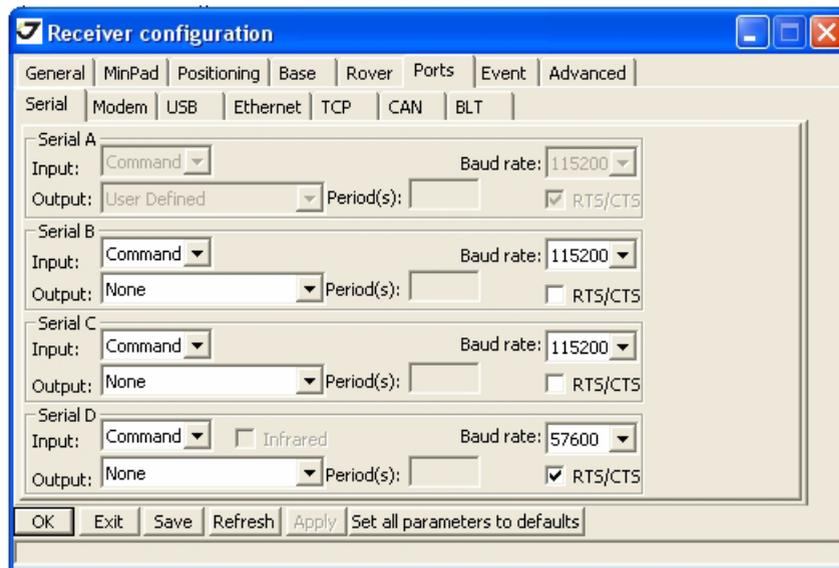

Figure 3-18. Base and Rover Configuration for RTK Surveys – Ports
9. For RTK surveys, click the *Ports* tab and set the following port parameters for the serial port (Table 3-6), then click *Apply* (Figure 3-18 on page 59).